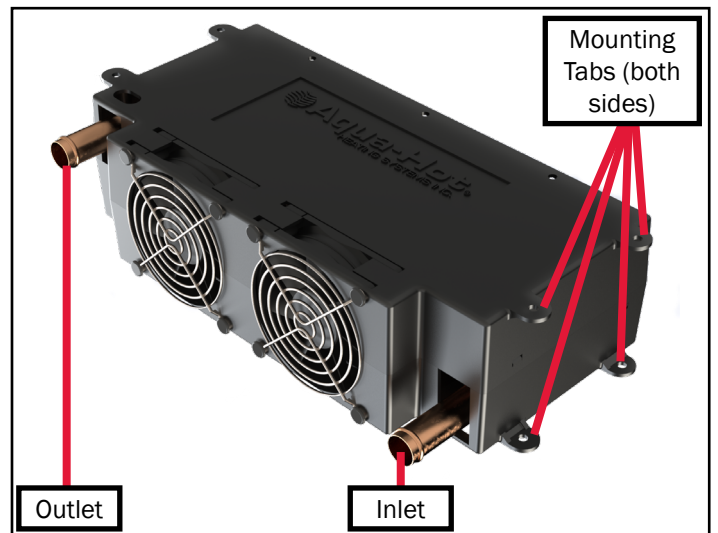

Figure 69
- The anti-freeze and water heating solution must flow in through the bottom of the heat exchanger, and out the top (reference Figure 69).
- It is required to have a minimum of two (2) heat exchangers.
2. Mount each heat exchanger permanently into place. There are 4 tabs on both sides - see Figure 69.